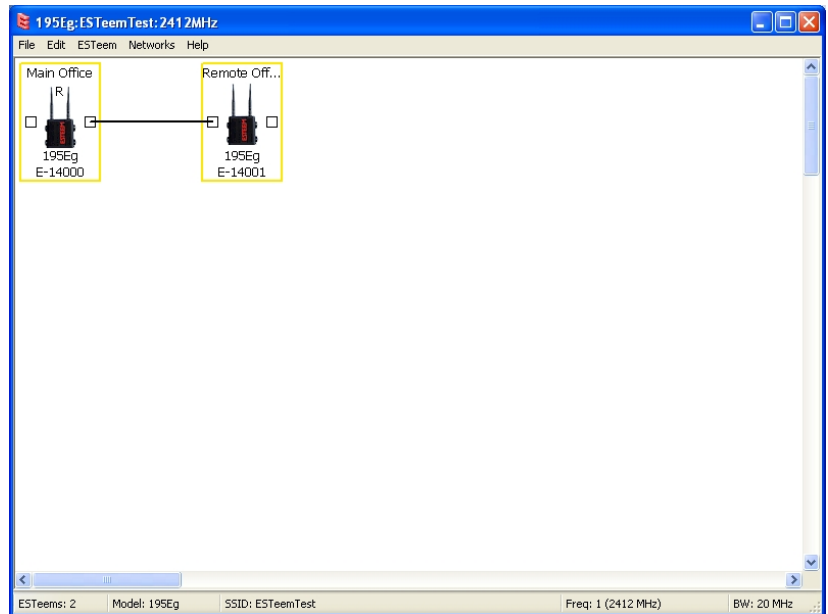

Figure 13: Create Wireless Link
1. Add the two ESTeem Model 195Es to the network using the above procedure. Once both ESTeem 195Es are on the configuration page, create a wireless link by clicking on one of the two connection boxes and dragging a line to the other modem (Figure 13).